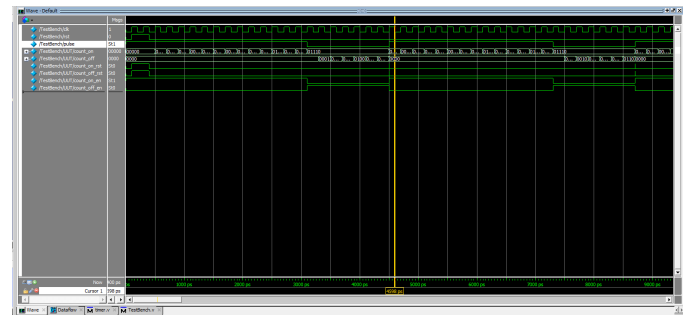

Figure 11
- A clearer picture of Figure11 exists in Project/Part2 folder.